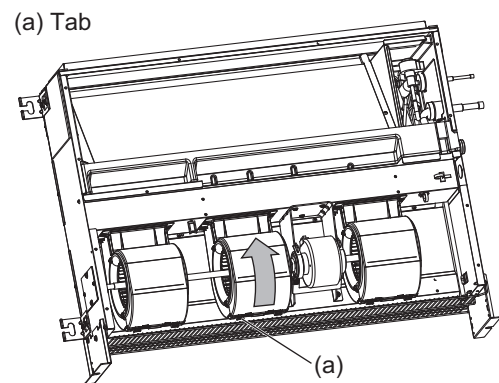

Fig.12
- (1) Squeeze the tabs on the fan casing to remove it in the direction of arrow. (Fig. 12)